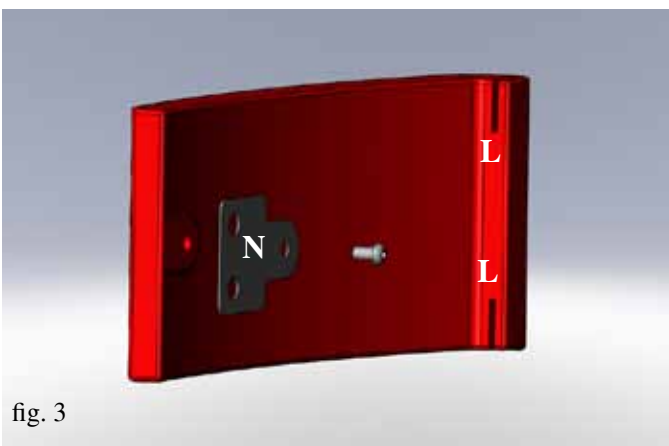

fig. 3
- On the rear, apply the ceramic panels (1-2-3) and the plates (N) securing them in the holes provided using the screws supplied (fig. 3).